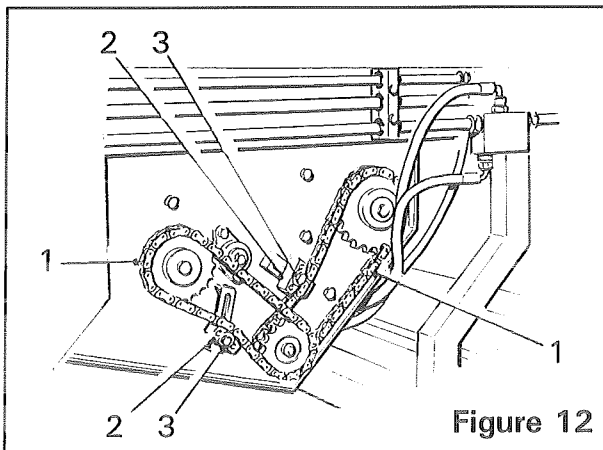

Figure 12
The 3rd stage web is driven by two drive chains (*item 1, figure 12*). Each drive chain is tensioned by a tension block (*item 2, figure 12*). To adjust the tension of the chains, loosen the securing bolts (*item 3, figure 12*) and slide the blocks to achieve the correct tension. Once achieved, retighten the securing bolt.